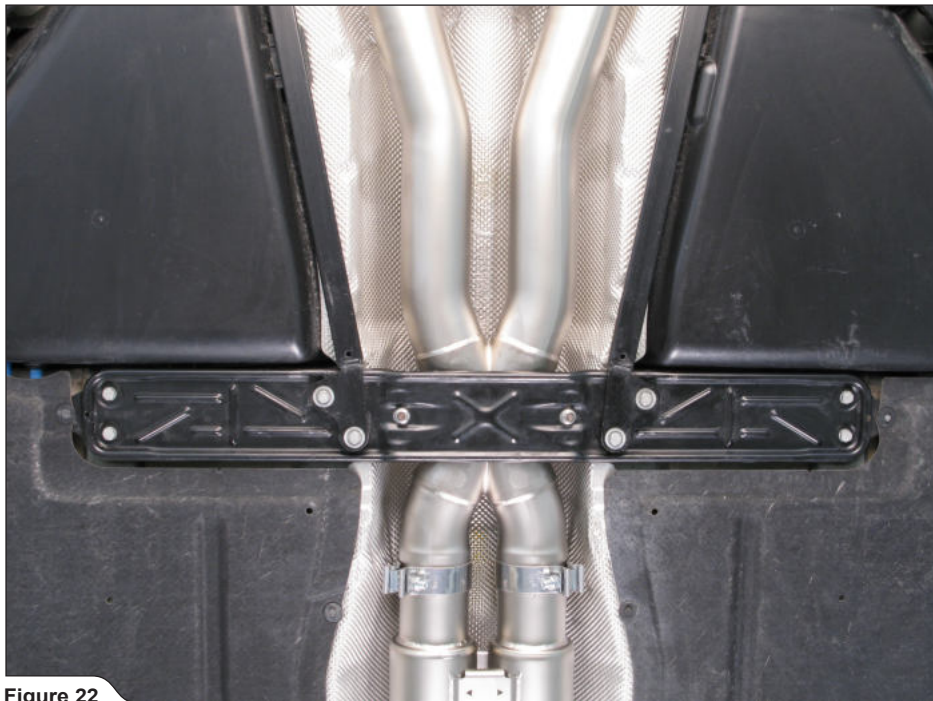

Figure 22
- Carefully attach stock collector's bracket onto the vehicle, and hand tighten all the stock bolts and nuts (**Figure 22**).